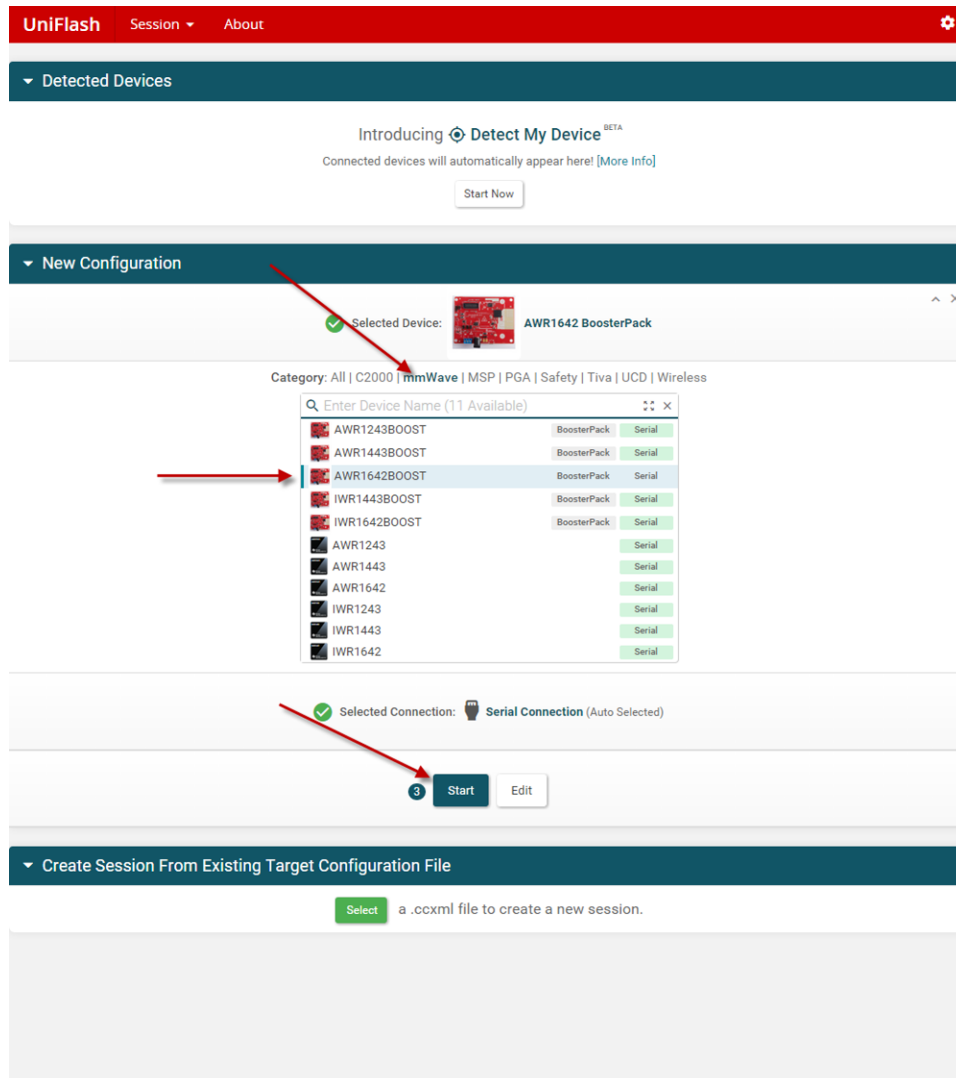

Figure 12. Uniflash Configuration
- Open the UniFlash software. Select *mmWave* from the *Category* header, select *AWR1642* from the field of available devices, and then click the *Start* button (see Figure 12).